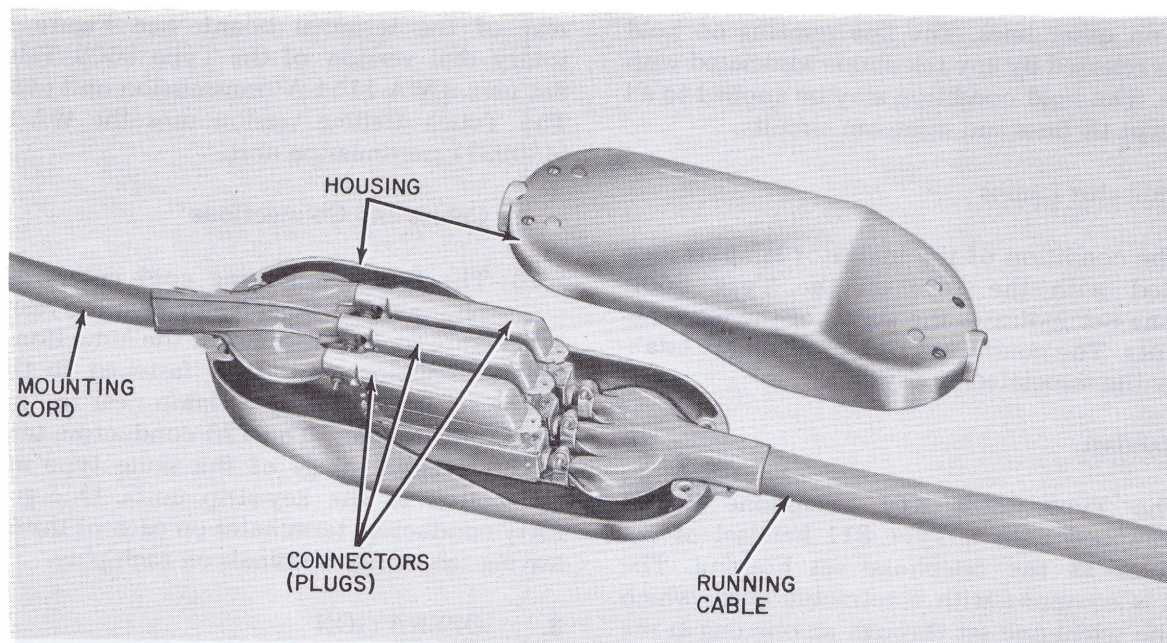

Figure 7. Type 860B Telephone Mounting Cord Plugs Connected to Running Cable Receptacles (Cover Off).
- (1) Place the telephone set in the location in which it will be used.
- (2) Mount one side of a (553050) connector housing on a wall or the floor within reach of the 8-foot long mounting cord (Figure 7).
- (3) Connect the plugs of the running cable into the receptacle of the mounting cord, and place the connectors inside the mounted half of the connector housing of Step 2.
- (4) Install the second half of the connector housing.